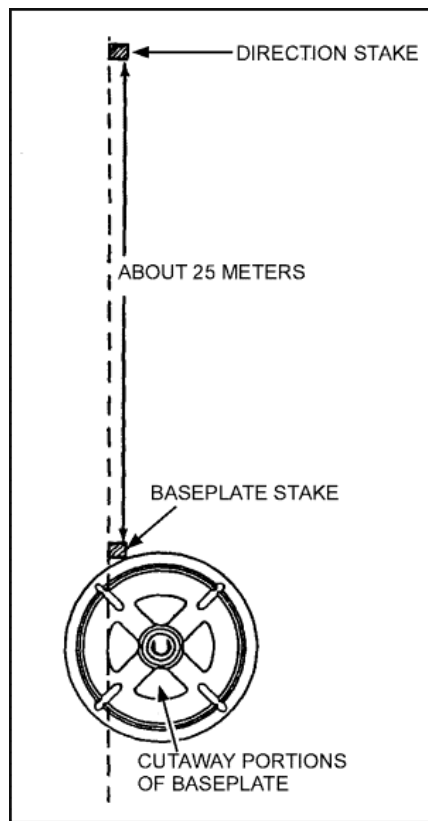

Figure 5-7. Baseplate placed against baseplate stake.
- a. The first ammunition bearer places the outer edge of the baseplate against the baseplate stake, so that the left edge of the cutout portion of the baseplate is aligned with the right edge of the stake (Figure 5-7). He then rotates the socket cap so that its open end is pointing in the direction of fire.